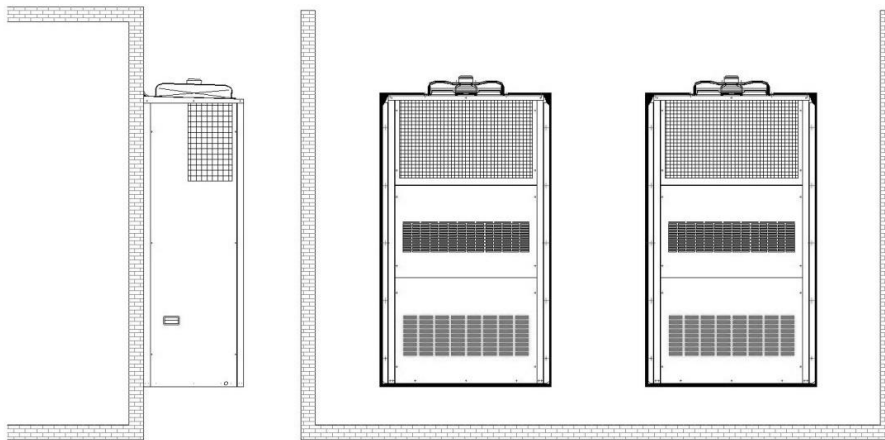

Figure 3-5 Seal the Joints between WPUs and Wall
To prevent moisture from getting in and air leaking out, coat the joint between the rear panel of the unit and the wall with a layer of silicone sealant (installer provided, see Table 3-2, item 1) as shown in Figure 3-5.